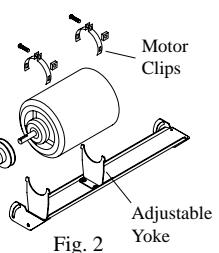

Fig. 2
- Mount motor.** Install blower motor in the motor mount yokes, adjusting the yoke if necessary. Fasten with the provided mounting clips (see Fig. 2).